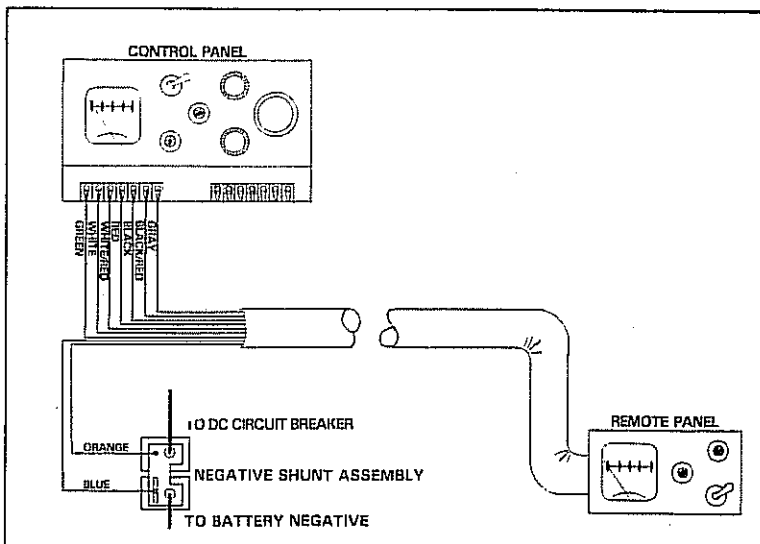

Figure 9. Remote Panel Wiring.
6. If a remote panel is to be installed, make connections as shown in Figure 9. When attaching wires for remote panel, remove the 2 jumpers on that terminal strip first.